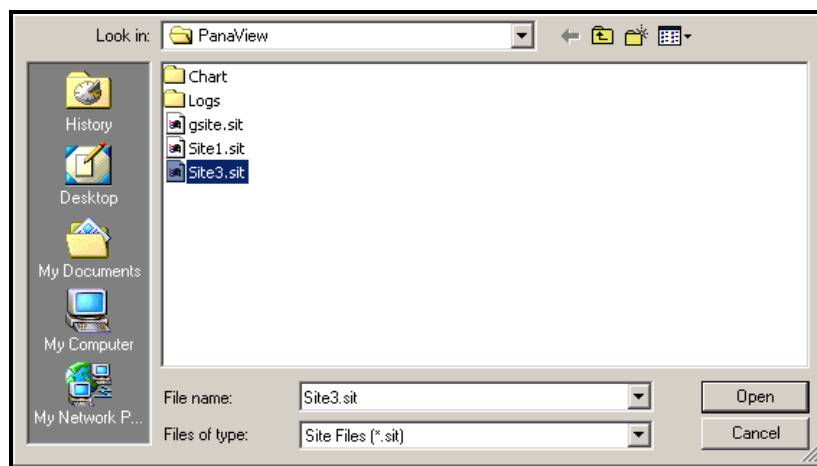

Figure C-15: Site File Selection
2. Then click on the *Save Site to Meter* button. A screen opens similar to Figure C-15 below.
3. The *Site File Selection* window (Figure C-15 on page C-12) opens. Highlight a site with the desired settings, and click [Open]. PanaView saves the site in the meter with the new name and the desired settings.
3. The *Site File Selection* window (see Figure C-15 on page C-12) opens. Enter the desired site name (now with a .prt suffix) and click [Save]. PanaView displays a text version of the site, as shown in Figure C-17 below.